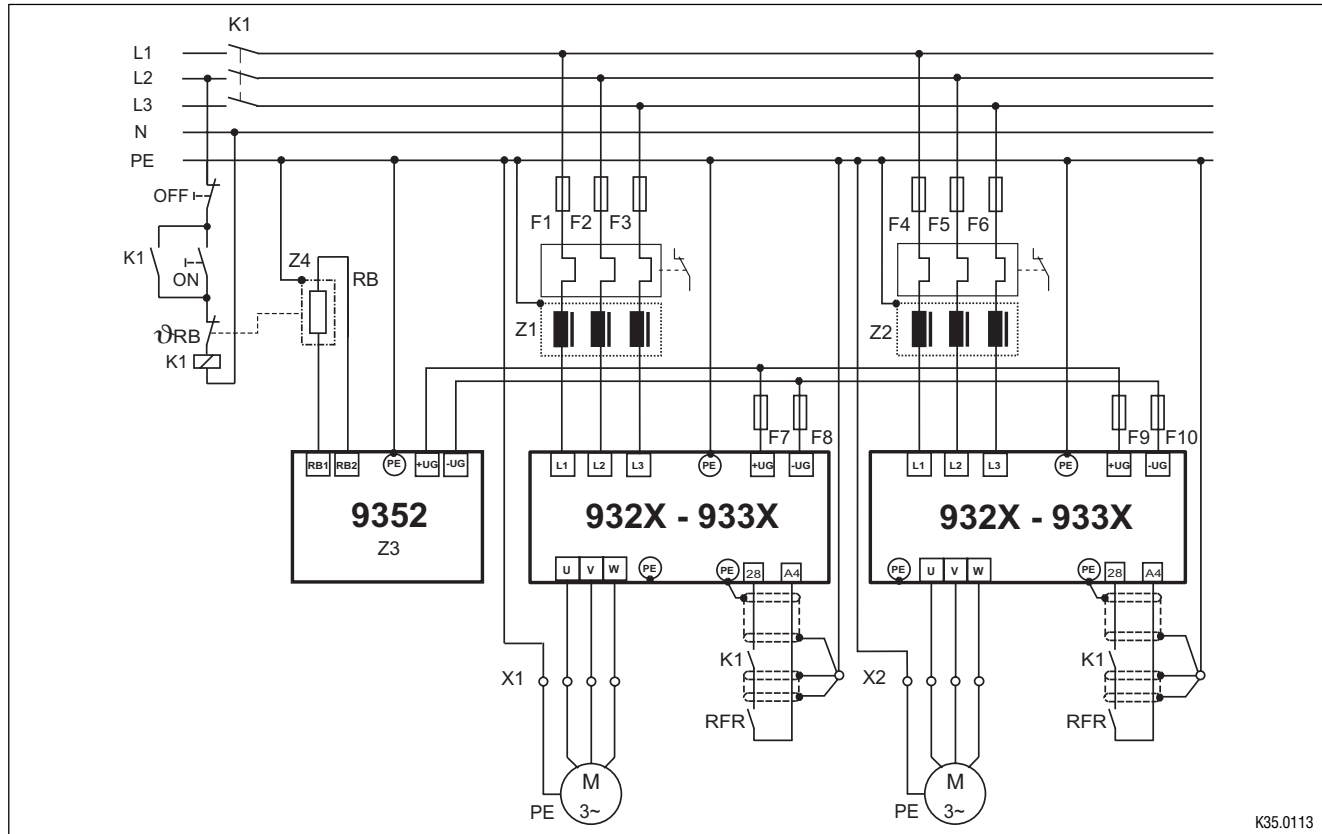

Fig. 4-9 Decentralized supply for DC-bus connection of several drives`
- Fig. 4-9, “Decentralized supply for DC-bus connection of several drives”. ( 4-18)